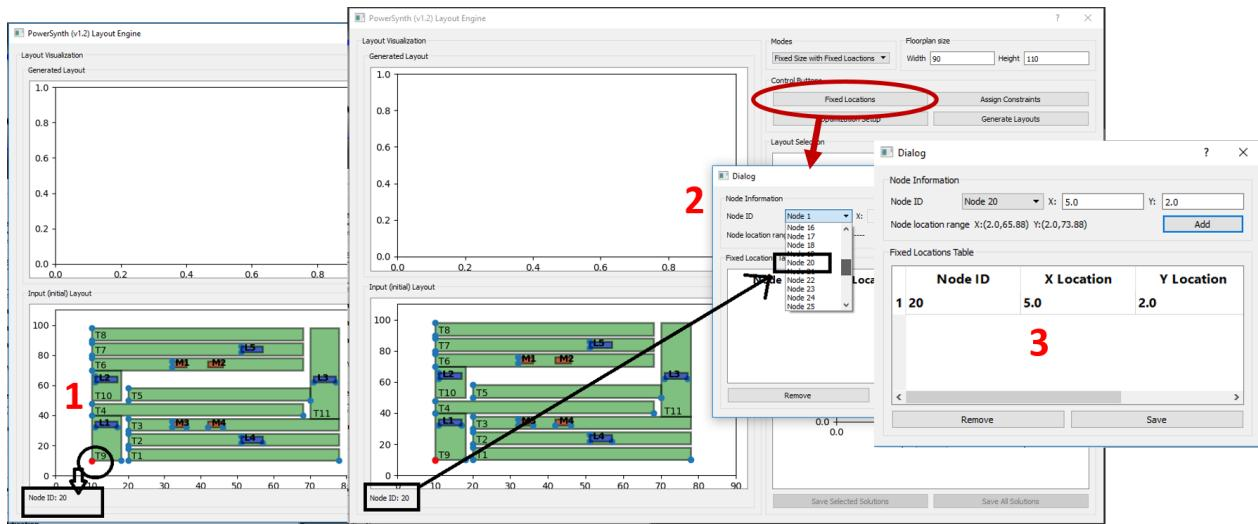

Figure 5: Fixed Location Setup
- **Fixed Size with Fixed Locations:** In this mode, "**Width**", "**Height**" must be given. Besides, one additional requirement is the "**Fixed Locations**". This button is used for allocating fixed coordinates to the desired nodes. On this mode, the input layout is updated with click-able dots on possible nodes of the layout as shown in Fig. 5 with marked as "1". To fix a node at certain coordinate, user needs to click on the node and the "**Node ID**" will appear at the bottom. Then, "**Fixed Locations**" button needs to be clicked to find the desired "Node ID". Upon selecting the "Node ID" from the drop down list, the valid x and y coordinate range will appear for that node. User needs to choose a value within the range and then "**Add**" button needs to be clicked to store the location. In the similar way, as much nodes as user want can
provide fixed location and then "Save" button needs to be clicked to apply the location values to the generated layout. A flow is shown in Fig. 5